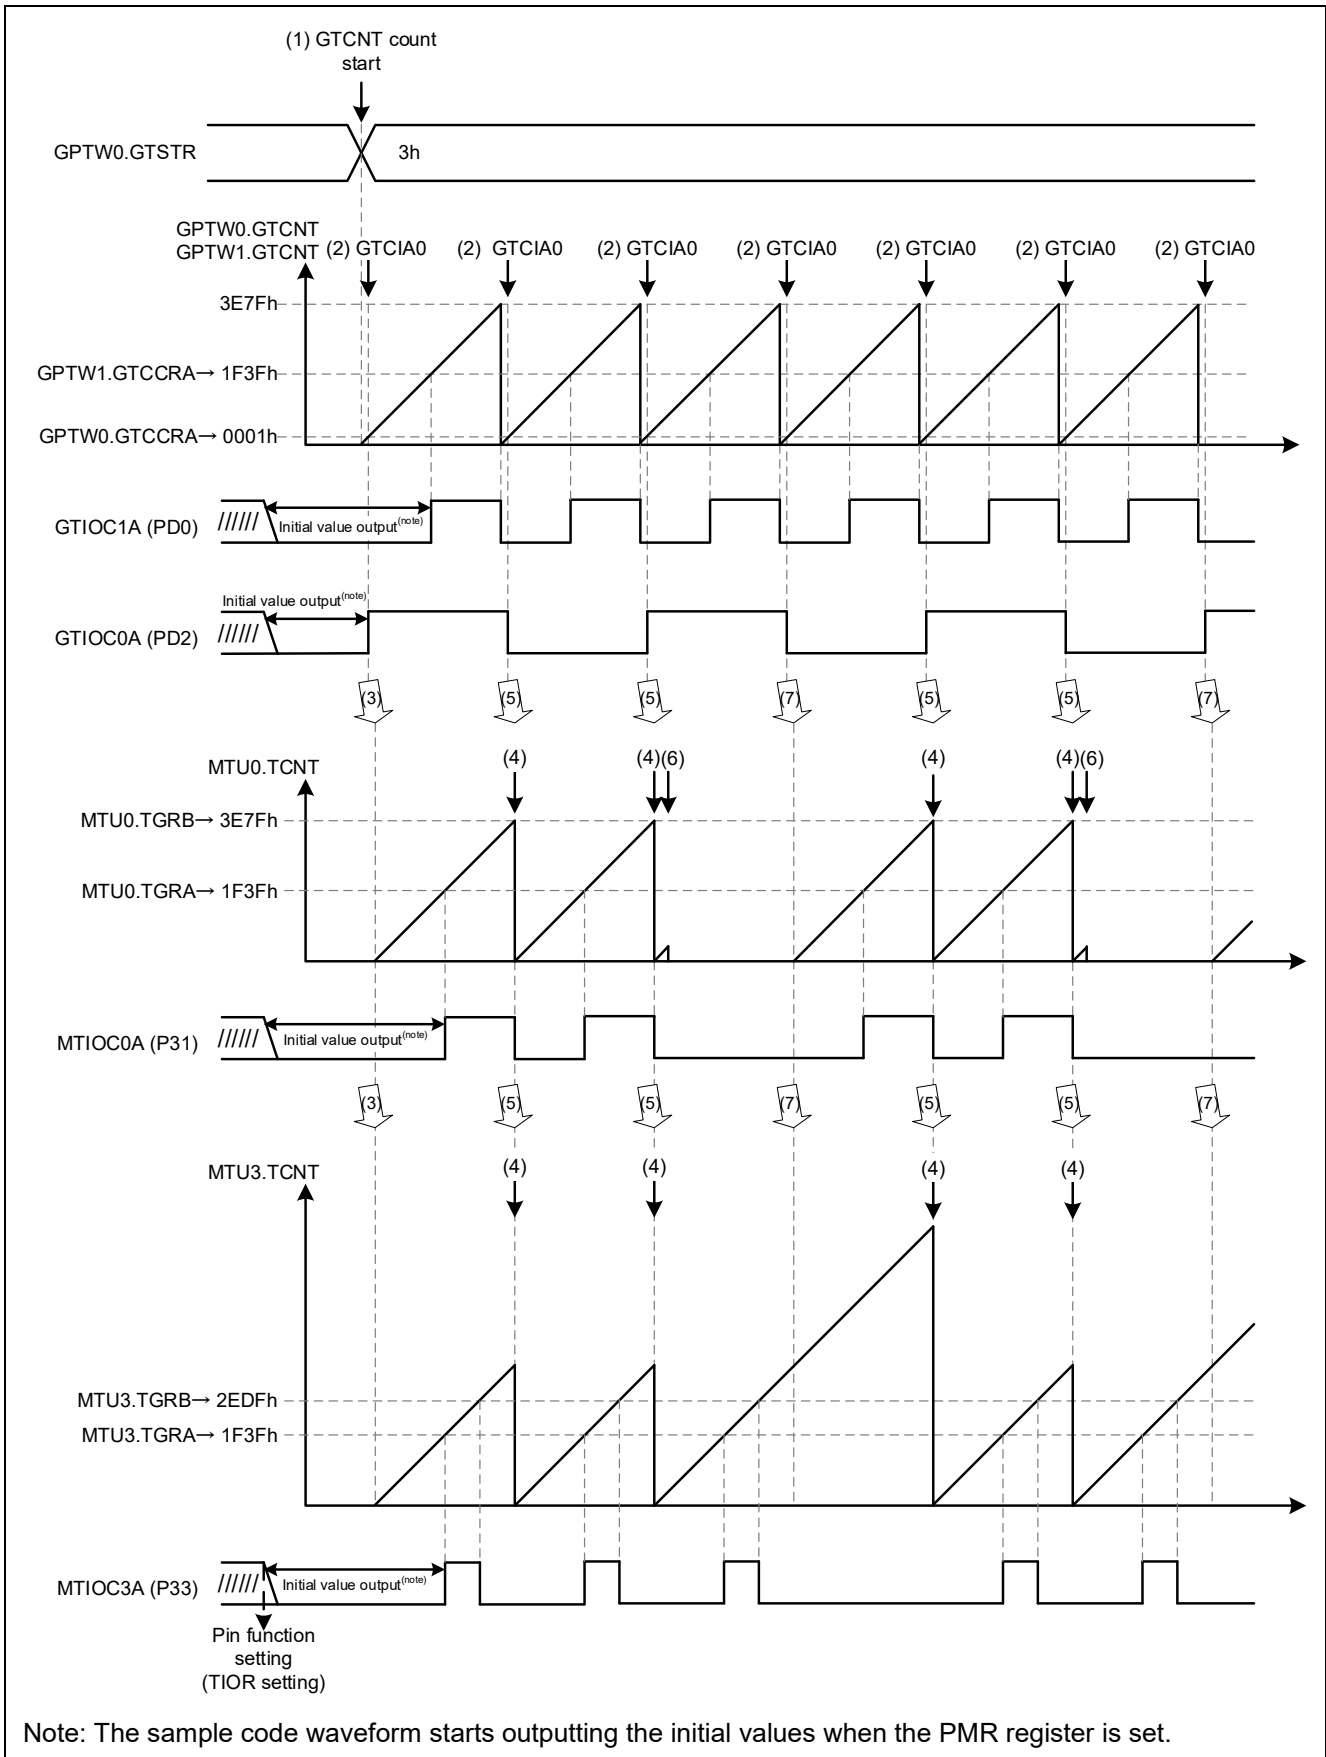

Figure 3.40 Sample Code Operations
The sample code operations are shown in Figure 3.40. GPTW0 and GPTW1 are set to sawtooth-wave PWM mode and MTU0 and MTU3 are set to PWM mode 1. GPTW0 compare match A is set to the event source of ELC, and MTU0 and MTU3 are set to counting start when the event is generated.
1. The GPTW0.GTSTR register is set to 0003h and GPTW0 and GPTW1 are started synchronously. ((1) in Figure 3.40)
2. GPTW0.GTCCRA compare match occurs and GTCIA0 is generated ((2) in Figure 3.40).
3. Using GPTW0 compare match A (GTCIA0) as the event source, the TSTRA.CST0 and CST3 bits of the MTU go to 1b and the MTU0 and MTU3 TCNT start counting ((3) in Figure 3.40)
4. MTU0.TCNT is cleared at an MTU0.TGRB compare match, and MTU3.TCNT, which was set for synchronous clearing at an MTU0.TGRB compare match, is also cleared ((4) in Figure 3.40).
5. GPTW0 compare match A is generated repeatedly but is disabled when the TSTRA.CST0 and the CST3 bit of the MTU are 1b ((5) in Figure 3.40).
6. Every third generation of GTCIA0 sets 0b in the TSTRA.CST0 bit of the MTU and stops the MTU0.TCNT count ((6) in Figure 3.40). MTU3.TCNT continues to count until the next MTU0.TGRB compare match occurs.
7. When GPTW0 compare match A occurs while the MTU0.TCNT counting is stopped, TSTRA.CST0 bit of the MTU goes to 1b and the MTU0.TCNT starts counting. The TSTRA.CST3 remains at 1b and the GTCIA0 generation is disabled ((7) in Figure 3.40).